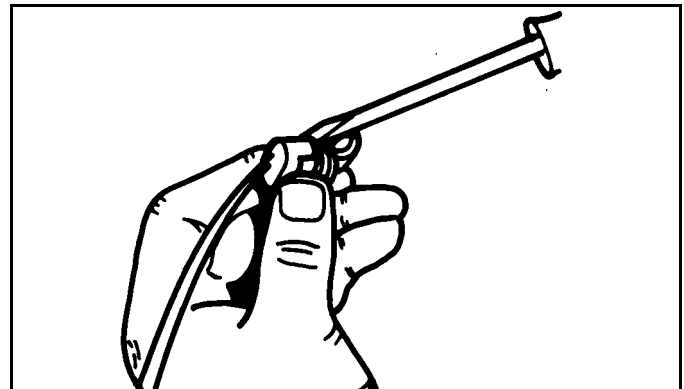

Figure 1-5
2. Remove retainer on wire end of connector with a screwdriver. (See Figure 1-5)